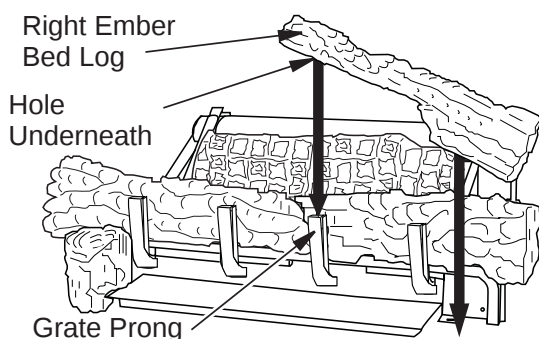

Figure 27 - Installing Right Ember Bed Log
- The right ember bed log 24" & 30" (D-047) has a hole in the log that sets on the grate finger and the other end rest on the fireplace floor, place log as shown in **Figure 27**. The right ember bed logs for 18" (D-072) has a groove on the side that sets on the ember bed pan and the back of the log needs to rest against the front of the base. Make sure the flame from the ember pan does not touch the ember bed log. The back side of this log needs to rest against the front of the base assembly, make sure the flame from the ember pan does not touch the ember bed log.